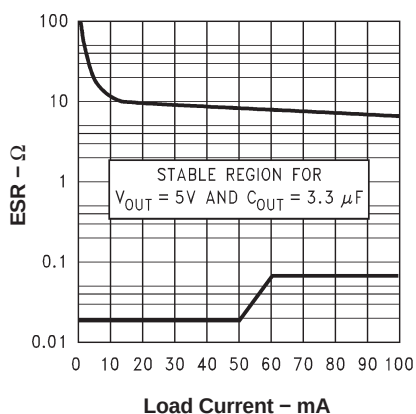
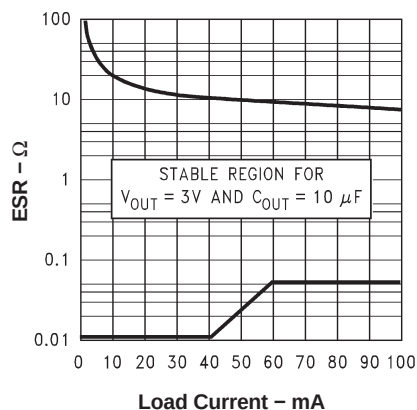

Figure 2. 5-V/3.3- μ F ESR Curves
Figure 5. 3-V/10- μ F ESR Curves
As a PNP regulator, the LP2981 requires the output capacitor to meet both a minimum capacitance and ESR value. Required ESR values as a function of load current are provided for various output voltages, load currents, and capacitances (see Figure 2 through Figure 5).
- ESR range: see Figure 2 through Figure 5